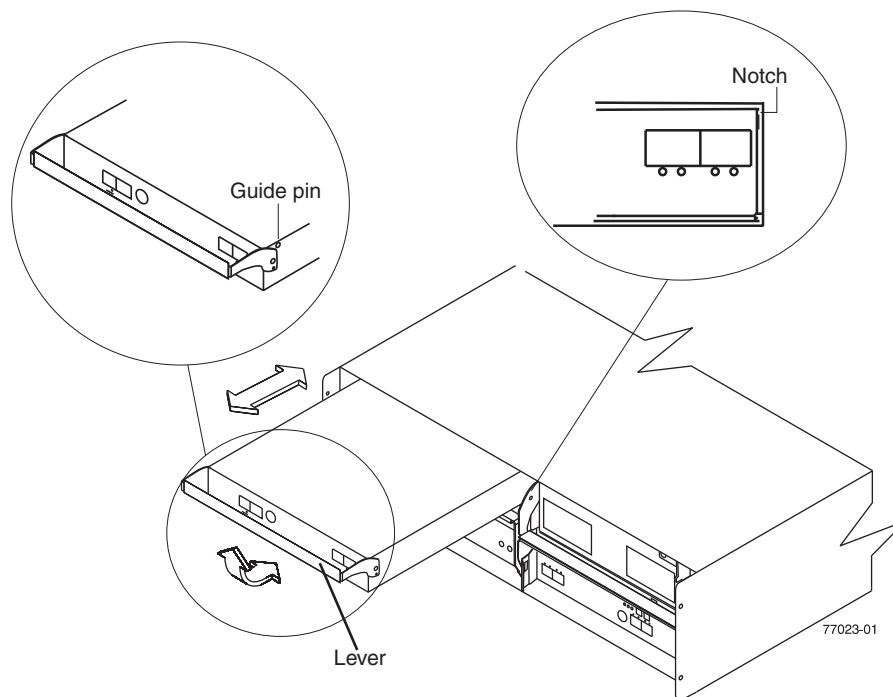

Figure 56. Removing and replacing an Environmental Service Module (ESM)
8. While squeezing the latch, pull the lever open 90° (so that the lever is horizontal). Pull the lever away from the chassis to remove the ESM from the EXP810 midplane, as shown in Figure 56 on page 117.
- b. Slowly pull the lever away from the EXP810 chassis to remove the ESM from the ESM bay, as shown in Figure 56 on page 117. (Remove the ESM from the chassis and place it on an electrostatic discharge (ESD) protected surface.)